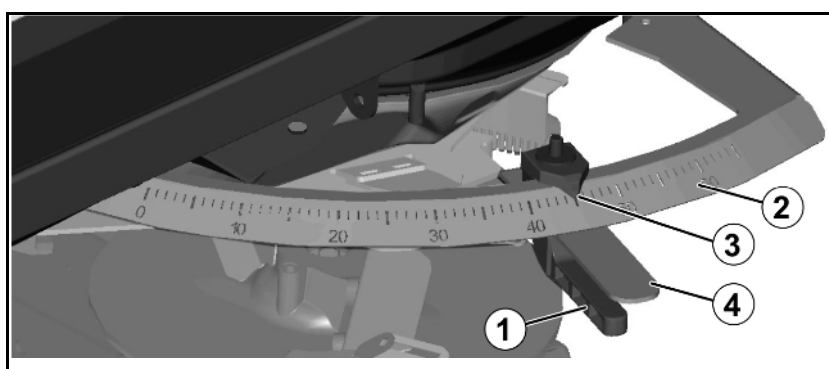

Fig. 51
2. Ditch spreading in accordance with fertiliser ordinance (Fig. 51):